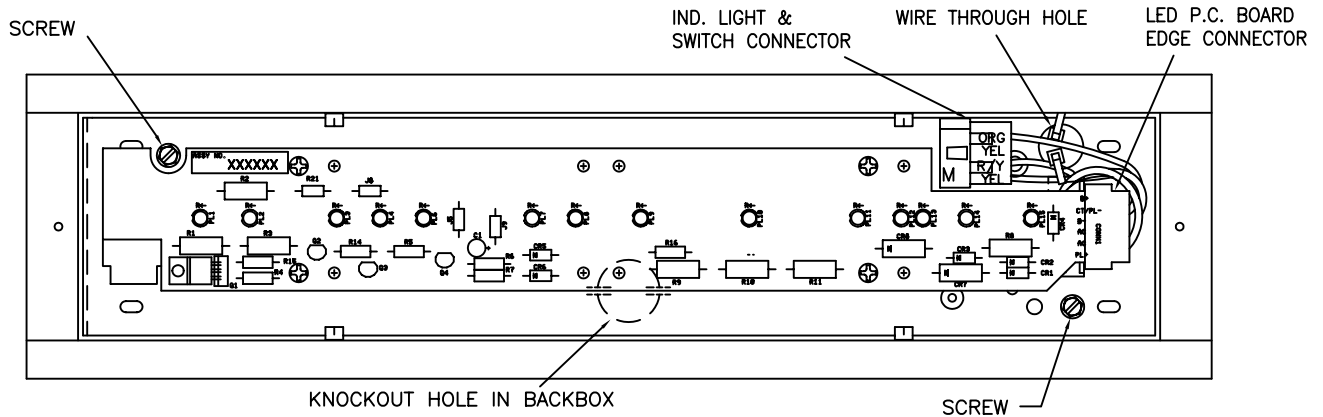

FIGURE 3
1. Remove chassis assembly from backbox by removing screw at each end. Save screws. (See Figure 3)
- Reconnect 4 circuit connector from chassis assembly to AC supply. Replace chassis assembly (to replace correctly, make certain that wire through hole on chassis is positioned opposite knockout hole inside backbox) and secure with saved screws. (Figure 3)